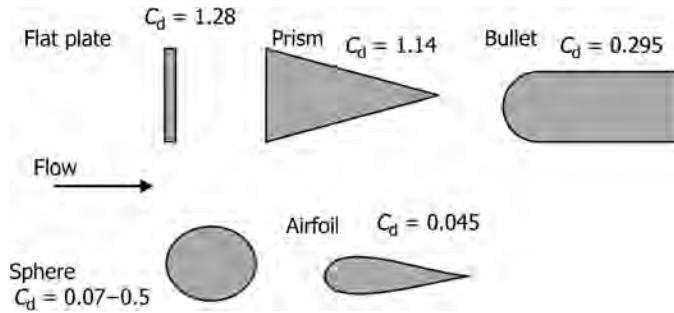

FIGURE 2.6 Drag coefficients for different shaped objects.
- Figure 2.6 gives drag coefficients for different shapes of objects.
- A quick comparison of the shapes shown in Figure 2.6 shows that a flat plate gives the highest drag and a streamlined symmetric airfoil gives the lowest drag, by a factor of almost 30. *Shape has a very large effect on the amount of drag produced.*